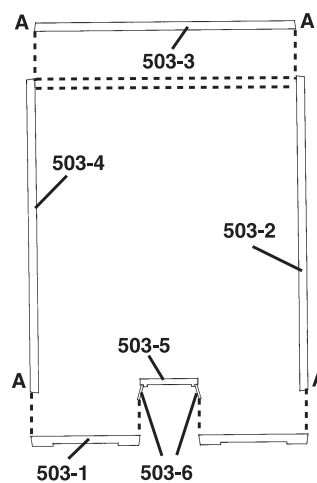

Fig. 2
Wall edges are angled (draft angles) to make removal from mold easier. Draft angles need to be sanded square to allow for proper assembly and a flush fit with adjoining Walls. To square edges, thumbtack a piece of 120-grit sandpaper to a board and draw Wall back and forth evenly on sandpaper until edge is square and level (Fig. 1). Edges to be sanded square do not have brick detail and are marked "A" (Fig. 2).
2. Glue Side Panels to Entry Door (Fig. 2 and 4).